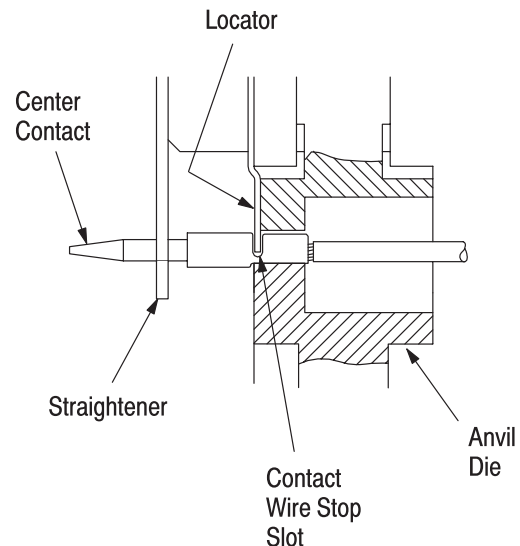

Figure 3
**4.1. Crimping the Center Contact** (Figure 3)
2. Close the tool handles so that the dies partially close. Position the contact so that the locator drops into the contact wire stop slot and the end of the contact is inside the groove in the straightener. See cross-sectional view in Figure 3.
4. Insert stripped cable into contact wire barrel until it is butted against the locator. See cross-sectional view in Figure 3.
**NOTE** *The crimped center contact may stick in the crimping area, but the contact can be easily removed by pushing downward on the top of the locator (see Figure 3).*